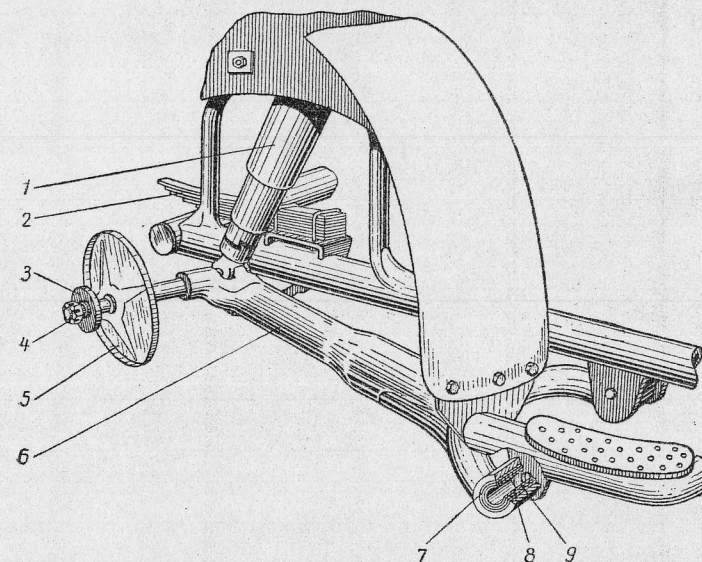

Fig. 24. Side-Car Wheel Suspension:
Wheel axle lever 6 (Fig. 24) is connected to the frame by means of two silent blocks (items 7, 8 and 9 in Fig. 24) similar to the silent blocks used in motorcycle frame swinging fork arms. Such connection ensures noiseless running, requires no special care in service and is practically wearproof.